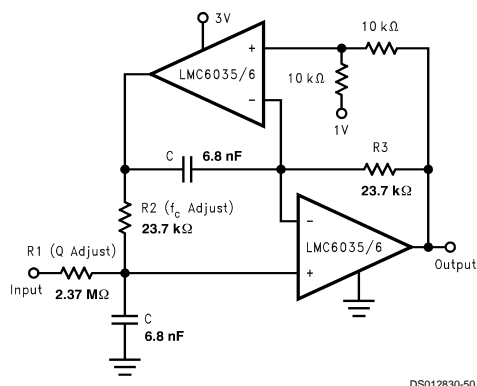

FIGURE 7. 2 Pole, 1 kHz Active, Bandpass Filter
The dual amplifier bandpass (DABP) filter features the ability to independently adjust  $f_c$  and  $Q$ . In most other bandpass topologies, the  $f_c$  and  $Q$  adjustments interact with each other. The DABP filter also offers both low sensitivity to component values and high  $Q$ s. The following application of Figure 7, provides a 1 kHz center frequency and a  $Q$  of 100.
1. First choose a center frequency ( $f_c$ ). Figure 7 represents component values that were obtained from the following computation for a center frequency of 1 kHz.